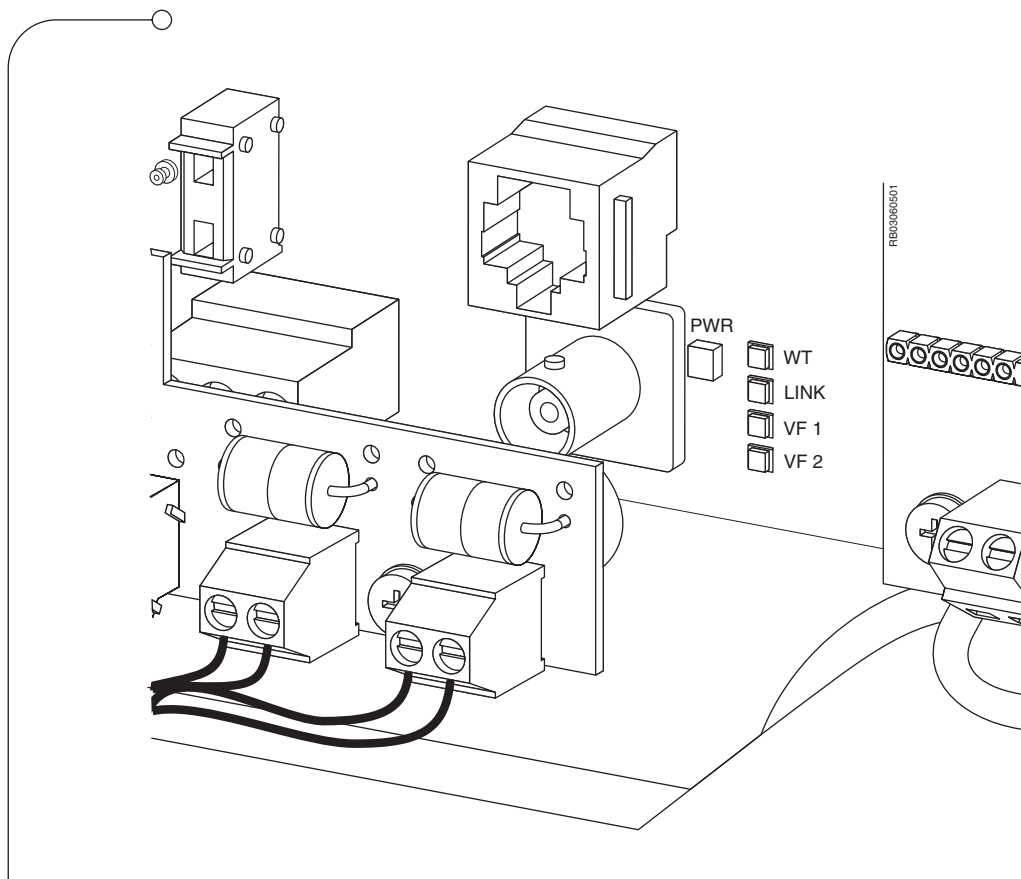

Figure 3.12 STS LEDs
- The STS LEDs are shown in Figure 3.12 on page 47 and their statuses are listed in Table 3.2.